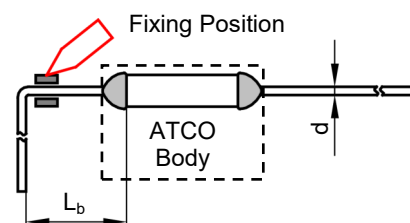

FIGURE R-2
2. When bending leads, please use pincher or similar tools to fix the product as shown in Fig.R-2, to avoid damaging the product.